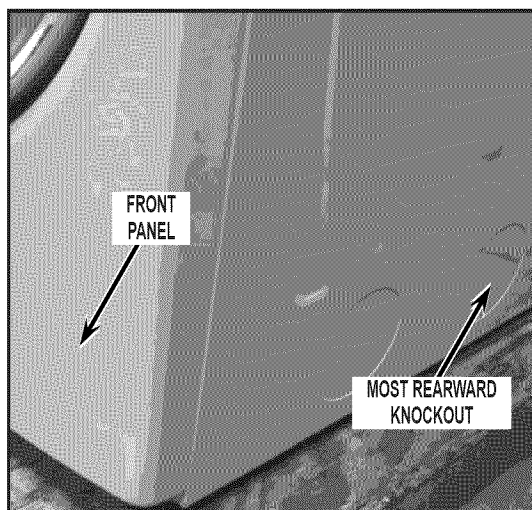

FIGURE 20
- As you are facing the dryer, review the lower section of the right side panel. If two (2) knockout features are present remove the MOST REARWARD KNOCKOUT ONLY. See *Figure 20*.